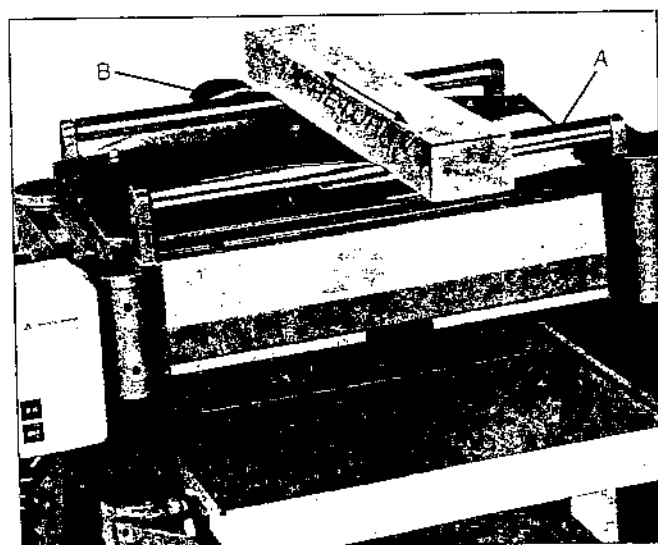

Fig. 35
The two return rollers (A) Fig. 35 on the top of the machine serve as convenient stock rest. When planed lumber is returned to the infeed side, it saves time and motion, as shown in Fig. 35.
Dust collector hood is standard accessory. Assembled to the rear of the planer using Hex. Hd. Screws and washers. It provides an efficient means of maintaining a clean and safe work area as shown in Fig. 35 (B).